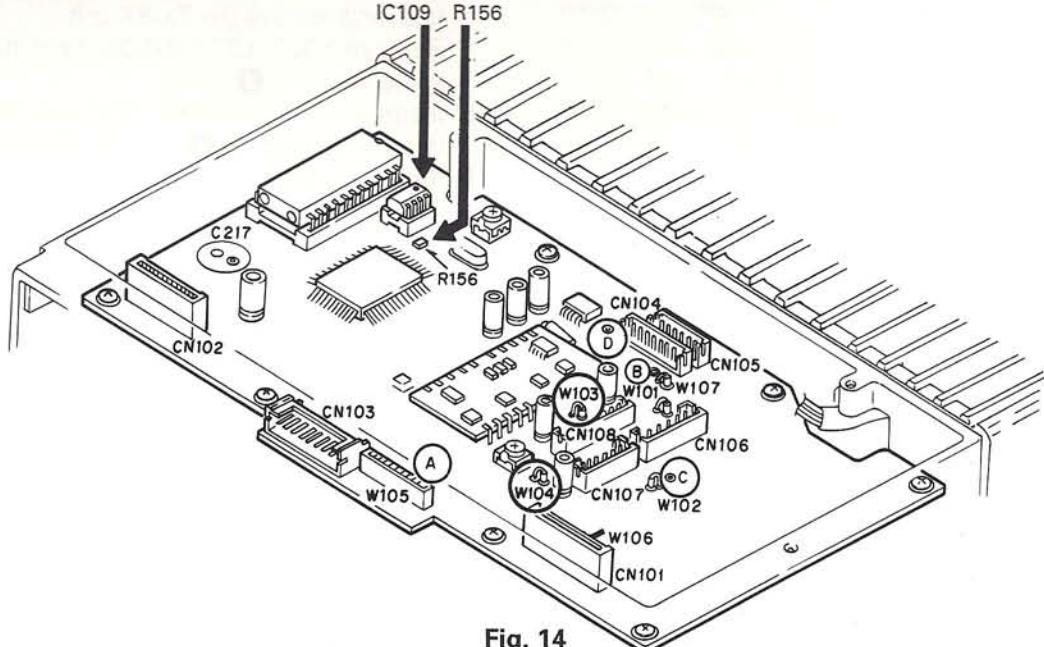

Fig. 14
2) Remove IC109 from the control unit (X57-3750 A/4) and install the KCH-5 EEPROM (X24C16PI) by soldering. (Fig. 14)
- 3) Remove R156 (R92-0670-05) of the control unit. (Fig. 14)
2) Remove IC109 (X24C04PI) of the control unit (X57-3750 A/4) from the socket, and install the KCH-5 (X24C16PI). (Fig. 14)